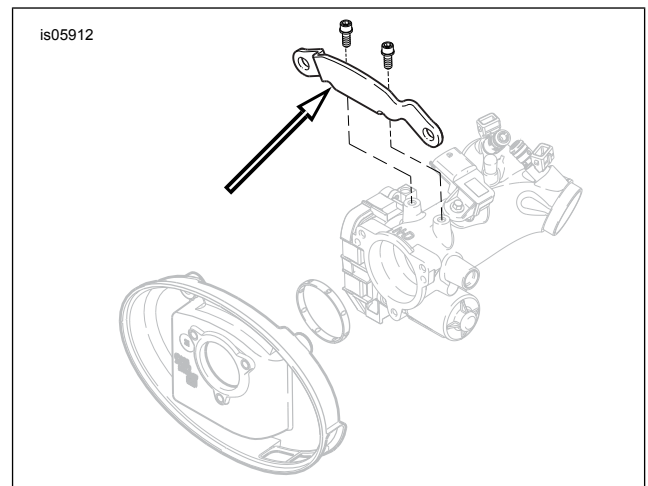

Figure 1. Remove Induction Module Support Bracket
4. See Figure 1. Remove and discard the induction module bracket.